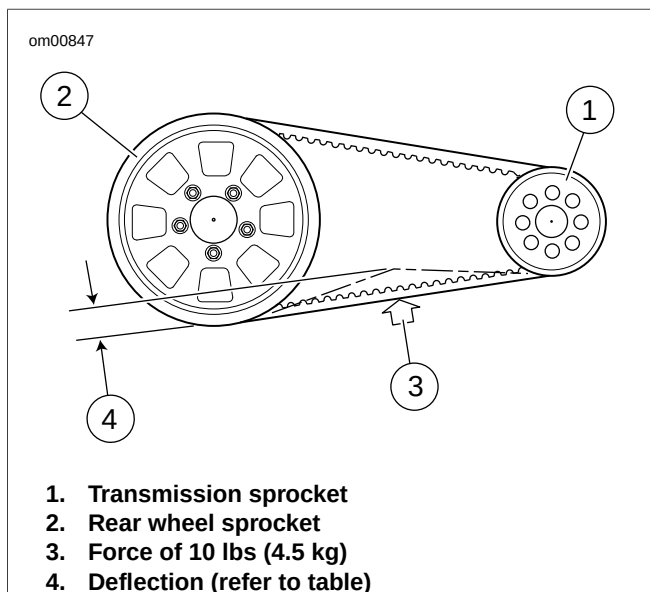

Figure 1-55. Gauging Belt Deflection: Sportster XL Models
- b. See Figure 1-55. On all other models, position the gauge half-way between the transmission and rear wheel sprockets.
See Figure 1-55. Determine belt deflection in manner specified in 1.16 REAR BELT DEFLECTION, Rear Drive Belt: Sportster Models. If belt deflection is not correct, adjust per the following procedure.